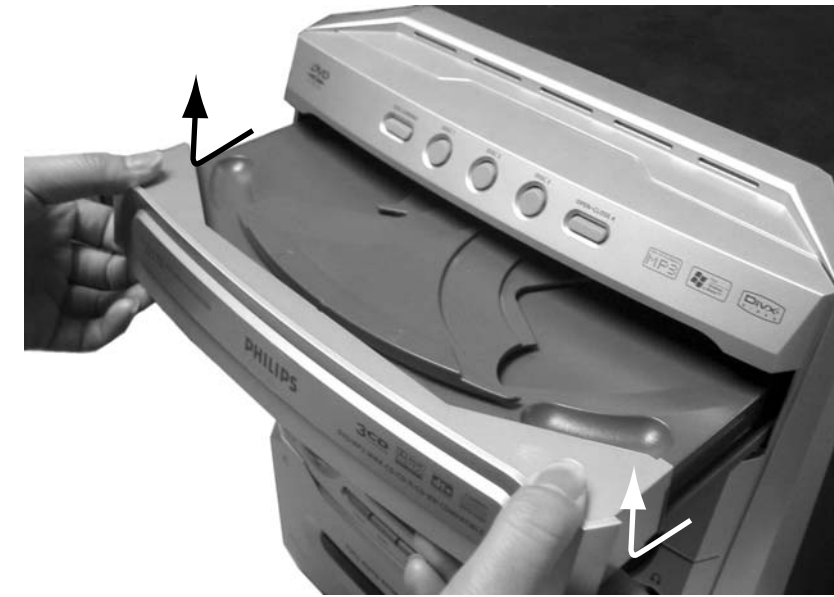

Figure 4
- 4) Remove the Cover Tray as shown in figure 4.